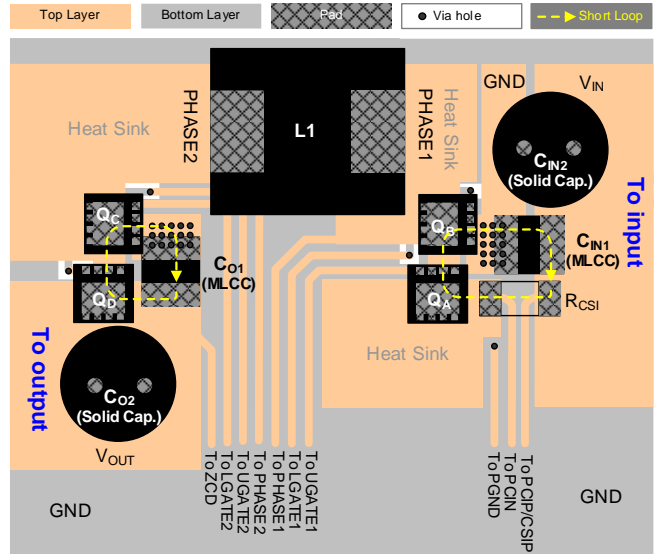

Figure 6. Recommended PCB Layout of the Power Stage
- ▶ Figure 6 is a recommended placement of the PWM Buck-Boost power-stage. Two critical loops “from $C_{IN1} \rightarrow R_{CSI} \rightarrow Q_A \rightarrow Q_B$ to C_{IN1} ” and “from $C_{O1} \rightarrow Q_D \rightarrow Q_C$ to C_{O1} ” must be as short as possible to minimize the switching noise at PCIP/CSIP, PCIN, PHASE1, PHASE2 and ZCD pins. The shorter paths also help to reduce radiated EMI. It is necessary to use an MLCC (10 μ F/50V, X5R/X7R) for the input capacitor (C_{IN1}) and output capacitor (C_{O1}). For reducing the input and output voltage ripples during heavy load operation, it is recommended to add more MLCCs or solid input and output capacitors. Moreover, to improve heat